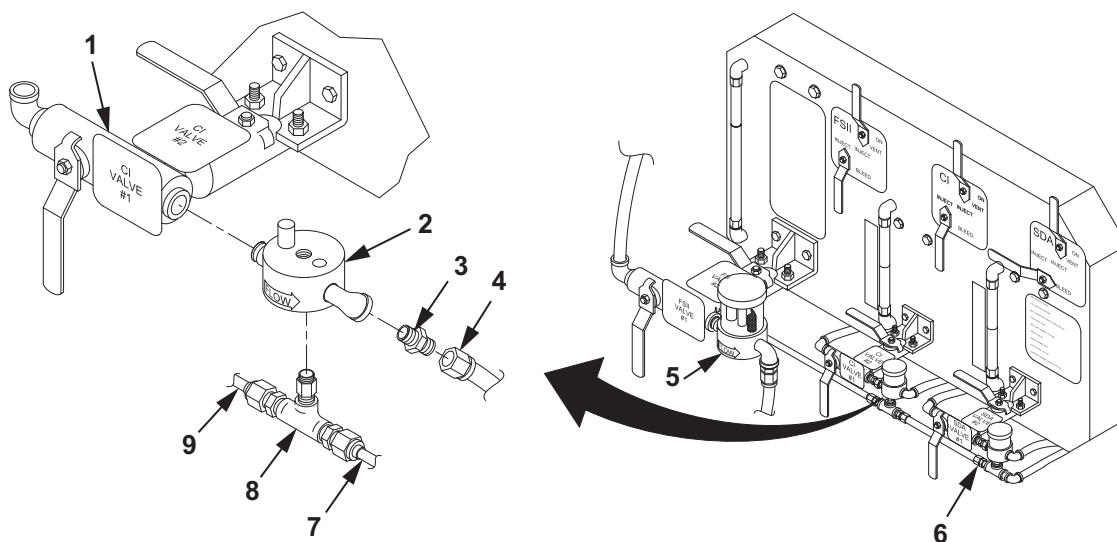

Figure 1. CI Sight Flow Indicator Maintenance.
1. Apply teflon tape to threads of tee assembly (Figure 1, Item 8).
2. Install tee assembly (Figure 1, Item 8) on CI sight flow indicator (Figure 1, Item 2).
3. Connect tube (Figure 1, Item 7) to SDA sight flow indicator (Figure 1, Item 6) and turn clockwise slightly until tube (Figure 1, Item 7) can be connected to tee assembly figure 2, Item 8).
4. Connect tube (Figure 1, Item 7) to tee assembly (Figure 1, Item 8) at bottom of CI sight flow indicator (Figure 1, Item 2). Tighten tube (Figure 1, Item 7).
5. Connect tube (Figure 1, Item 9) to tee assembly (Figure 1, Item 8) and bottom of FSII sight flow indicator (Figure 1, Item 5). Tighten tube (Figure 1, Item 9).
6. Apply teflon tape to threads on reducer (Figure 1, Item 3).
7. Install reducer (Figure 1, Item 3) on CI sight flow indicator (Figure 1, Item 2).
8. Connect hose assembly (Figure 1, Item 4) to reducer (Figure 1, Item 3) on CI sight flow indicator (Figure 1, Item 2). Tighten hose assembly (Figure 1, Item 4).